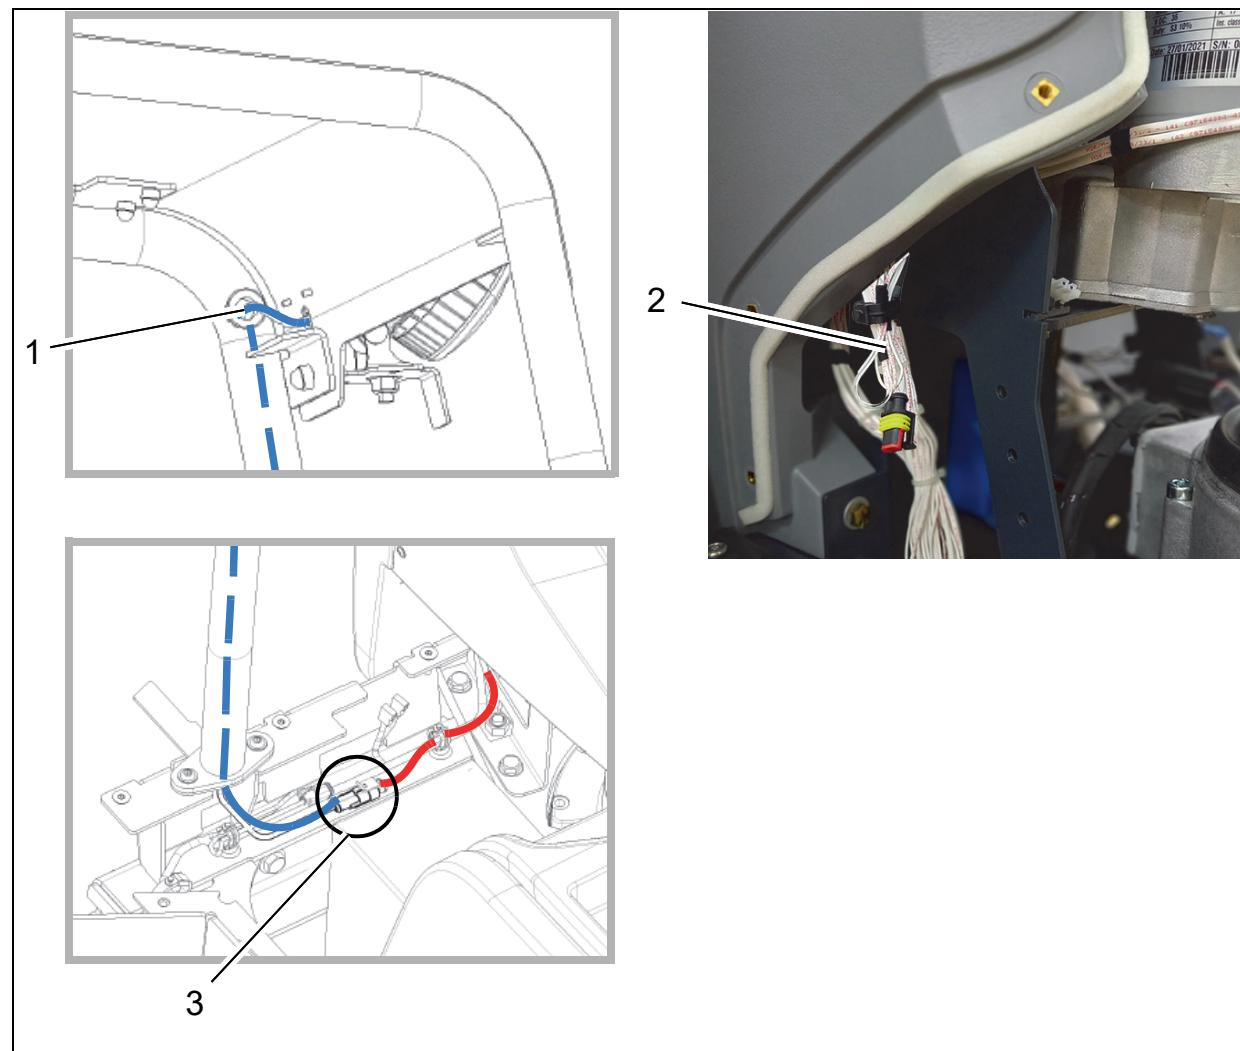

Fig. 3
2. Feed cable loom W72 downwards through the left front bar of the overhead guard (Fig. 3/1).
3. Undo the cable loops (Fig. 3/2) at plug E14/cable loom W3.
4. Route plug E14 to the bottom left and connect it to plug XE14/cable loom W72 (Fig. 3/3).